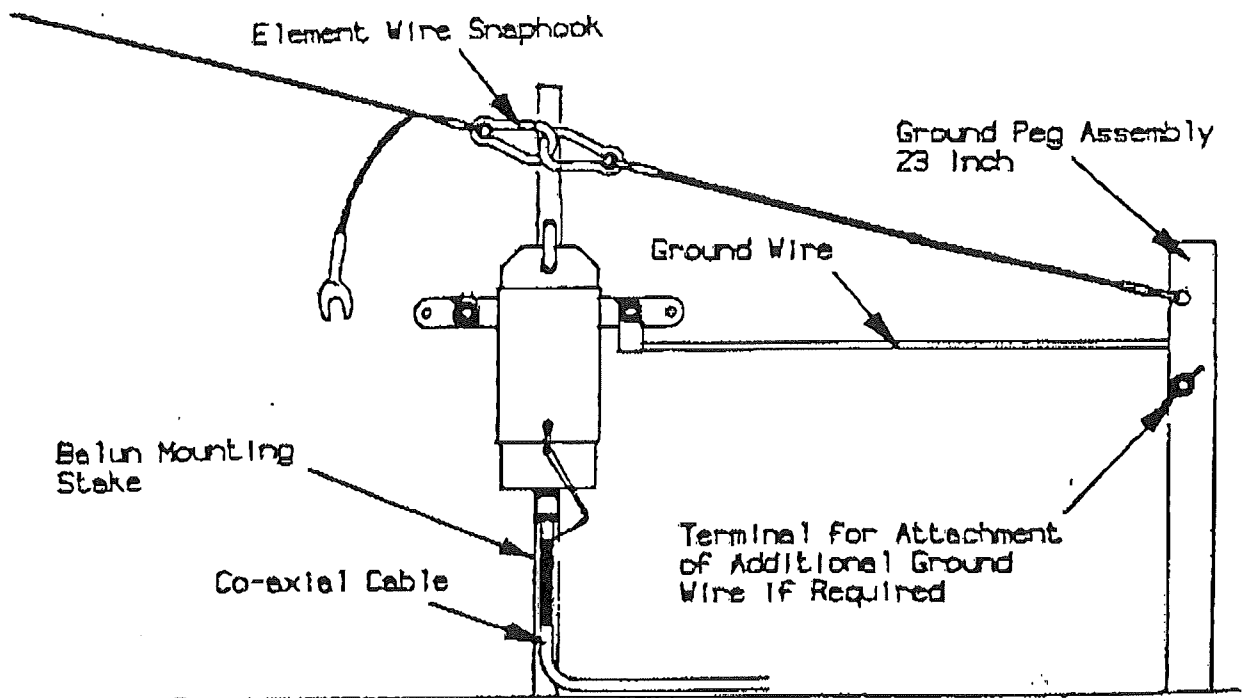

Figure 5-8. Beverage Configuration, Initial Set-Up
- Step 5 Attach the snap hook connector of the 117' Aerial Wire Assembly to the snap hook of the Ground Peg Assembly tension rope. See Figure 5-8.